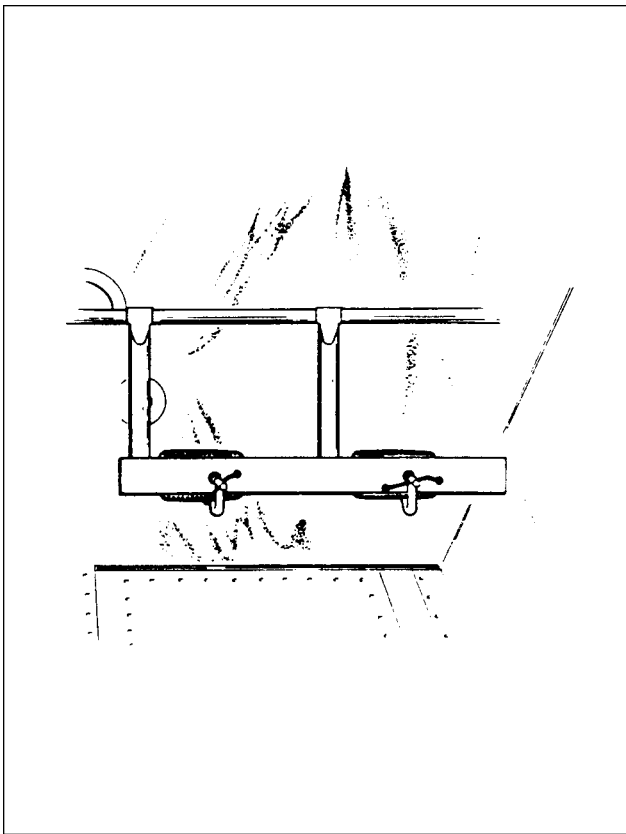

Figure 32-5. Clamping Rudder Pedals
7. Clamp rudder pedals to align in a neutral position. (Refer to figures 32-5 and 32-6.)